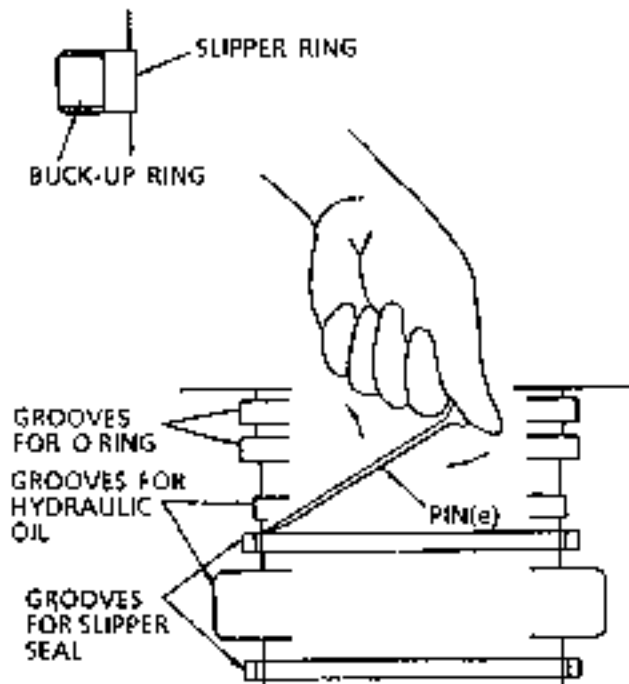

Fig. 7 Taking out seal ass'y (5)
- 1) Pull out O ring (6) from the O ring groove with the aid of a spatula.
- 2) Pierce pin (e) to seal (5) and extract slipper ring (5). Fig.7 shows the use of one pin, but by using two pins, this can be extracted with more sureness.